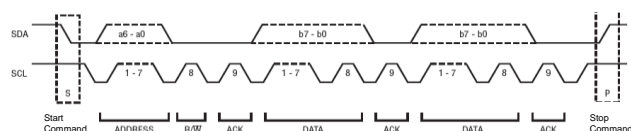

Figure 4: Complete Data Transfer
Figure 4 shows the data transfer format. After the start command (S), a slave address is sent. This address is 7 bits long, followed by an eighth bit, which is a data direction bit (R/W).